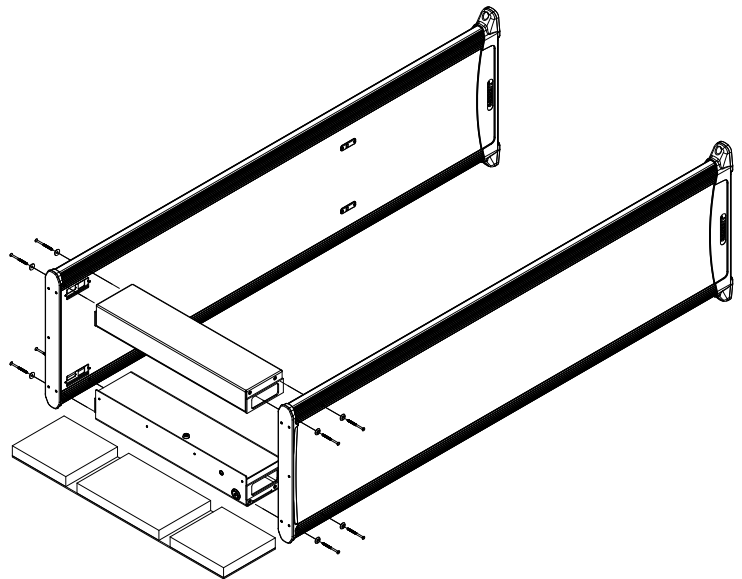

FIGURE 2-2
2. Place provided foam spacer between panels, and lay detection head face down on the foam. *See Figure 2-2.*